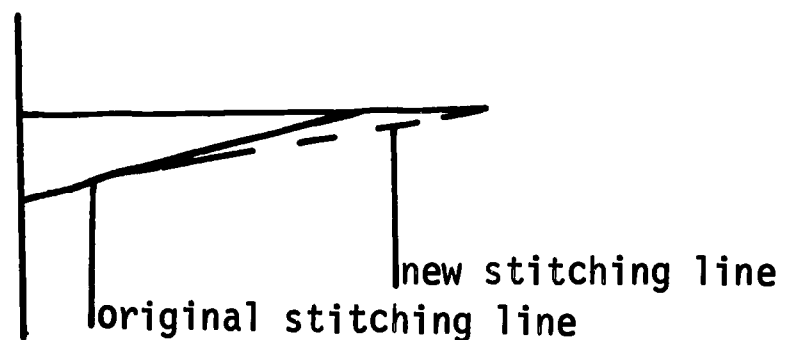

Figure 32.
2. To lengthen a dart, draw a chalk line from the base of the dart to the new point (see Figure 32). Stitch along the chalk line, being careful to taper the dart to nothing at the point. This prevents a pucker at the end of the dart.